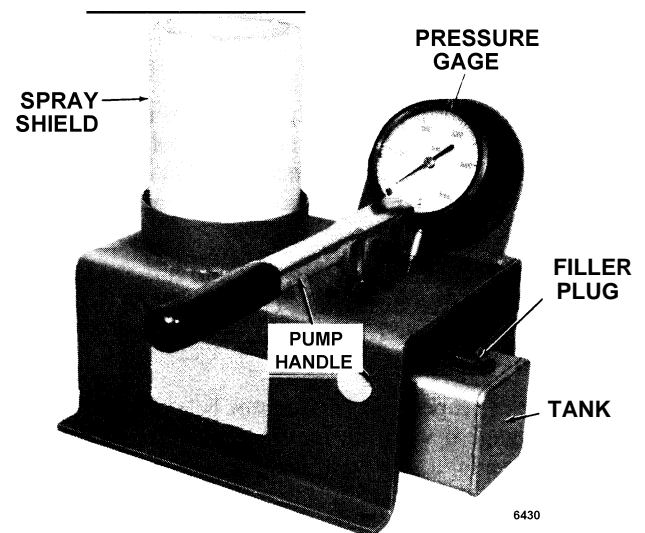

Fig. 6 - Tester J 22640-A with Shield Installed
3. Place the shield on the tester and operate the pump handle until the needle valve has opened several times to purge air from the system (Fig. 6).